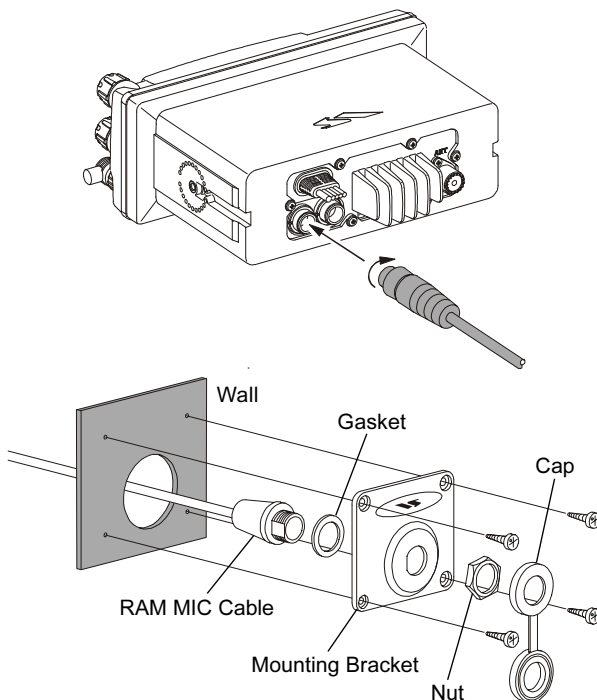

Figure 3. Enhanced RAM+ MIC Installation
1. Connect the RAM+ MIC Cable to the **RAM MIC CONNECTOR** on the rear panel, then tighten the Cable Nut (See Figure 3).
2. Referring to Figure 3, make a 1.2" (30 mm) hole in the wall, then insert the RAM+ MIC Cable into this hole. Connect the Gasket and Mount Base to the RAM+ MIC Cable Connector using the Nut.